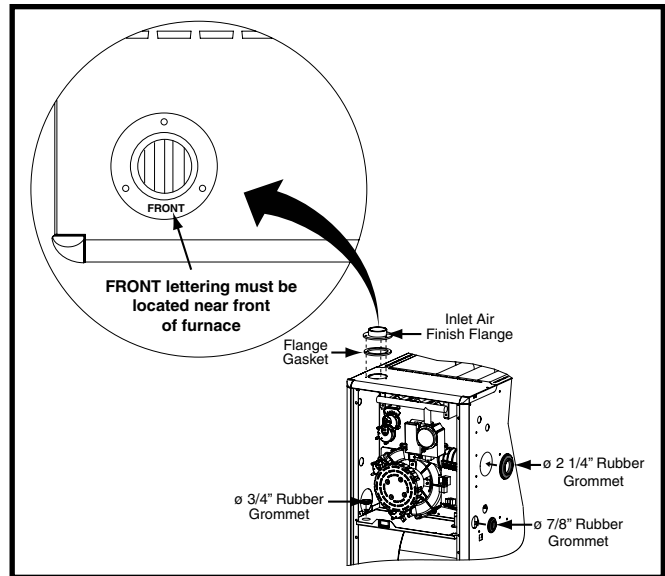
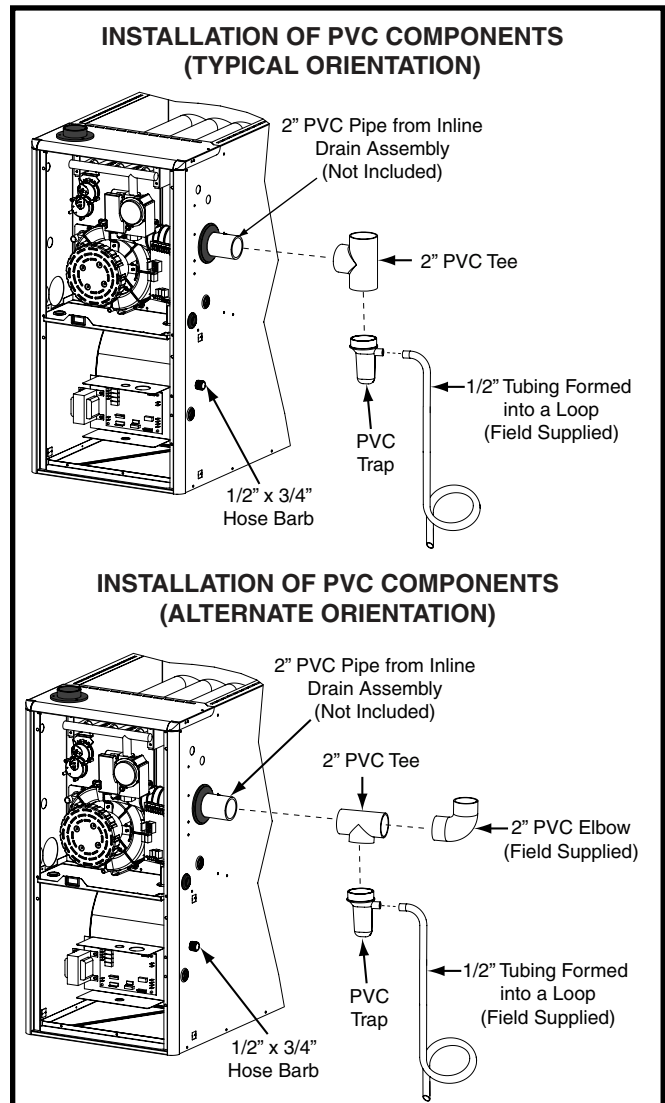

Figure 15. Rubber Grommets
Figure 16. PVC Components
The components in Figure 15 & Figure 16, \(page 18\) are included in the extra parts bag that is supplied with the purchase of MQ furnaces. Depending on your particular installation, some of these components are optional and may not be used. Please refer to the descriptions and accompanying figures when installing these items.
The Finish Flange must be installed to vent the combustion air pipe through the top of the furnace. **NOTE:** For proper installation, it is important that the pipe and screw holes in the finish flange, gasket, and cabinet are aligned. See Figure 15.
The 2 1/4" rubber grommet is used to seal the opening between the furnace cabinet and the 2" PVC vent pipe. The rubber grommet should be installed in the 3" hole prior to running the vent pipe out of cabinet. No sealants are required. See Figure 15.
The 2" PVC Tee and Trap shown in Figure 16, (page 18) are used when the inducer is rotated to vent out thru the left or right side of the furnace cabinet. **NOTE:** If supplied with your furnace, the NORDYNE PVC trap (664659) may be used in place of the reducer and 1/2" X 1/2" hose barb.
1. Install the PVC Tee vertically on the 2" vent pipe that is extending out the side of the cabinet. Permanently bond them together using appropriate primer and cement. Refer to the typical orientation shown in Figure 16.
1. Install the 2" PVC Tee horizontally on the 2" vent pipe that is extending out the side of the cabinet. Permanently bond them together using appropriate primer and cement. Refer to the alternate orientation shown in Figure 16.